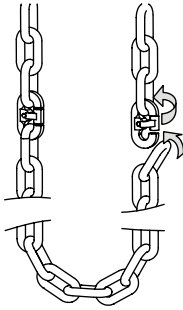
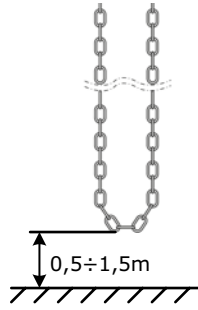

Figure 6
Figure 7
- the chain should be assembled and disassembled using special links (*fig. 6*). The edge of the chain of the emergency manual control when assembled should be at a height of 0.5~1.5 meters (*fig. 7*). If necessary, shorten the chain. The maximum length of the chain in an installation kit is 10 m. If the length of the chain is not sufficient, then it is necessary to purchase a chain of the required length.